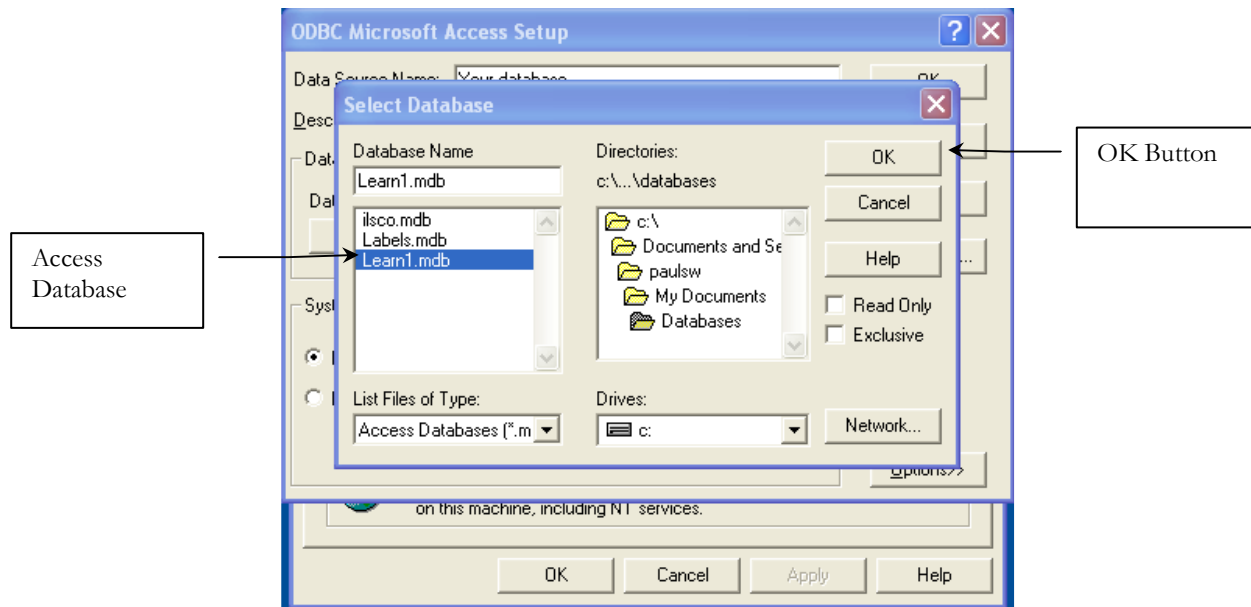

Figure 44
52. Click the [Select] button on the ODBC Microsoft Access Set Up screen. The following screen will appear. Select the Access Database to be used for the Label. Then click [OK]. (Figure 44)